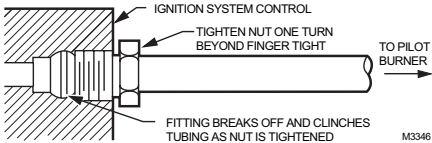

Fig. 6. Always use new compression fitting.
3. Unscrew the brass compression fitting from the pilot outlet (Fig. 5). Slip the fitting over the tubing and slide out of the way. See Fig. 6.